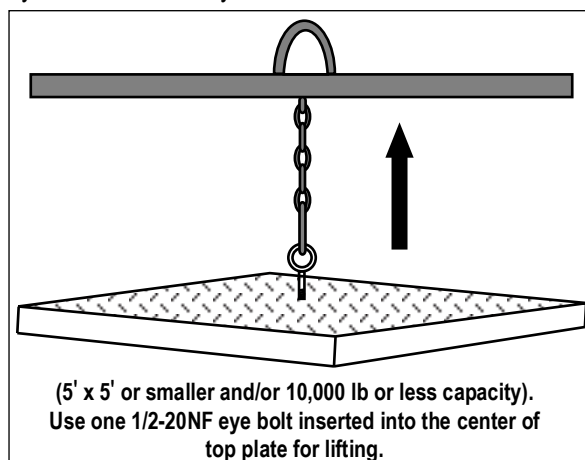

Figure 2-1. Proper Lifting Technique
1. Using proper lifting technique (Figure 2-1 on page 7), lift the scale so the feet are approximately one inch off the floor.